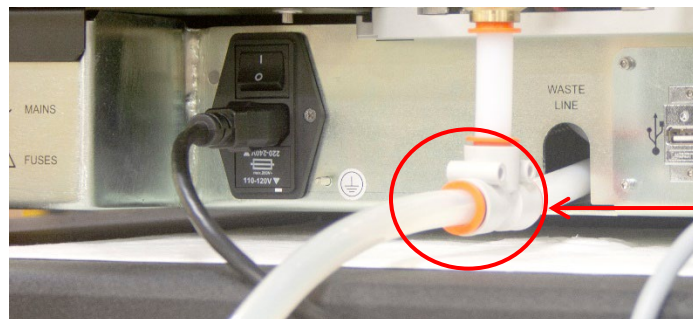

Figure 6: Waste Line Connection
3. Connect the bath waste tubing to the UltraVIS—fully insert tubing into push to lock fitting. See Figure 6.